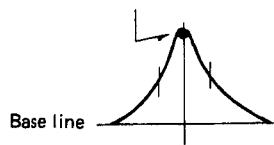

Fig. 18
- Feed in a weak signal to TP101 from the genescope. Adjust T101 for maximum gain and the wave form indicated in Figure 18. If the center of the wave form cannot be lined up on the marker, adjust the right/left balance.